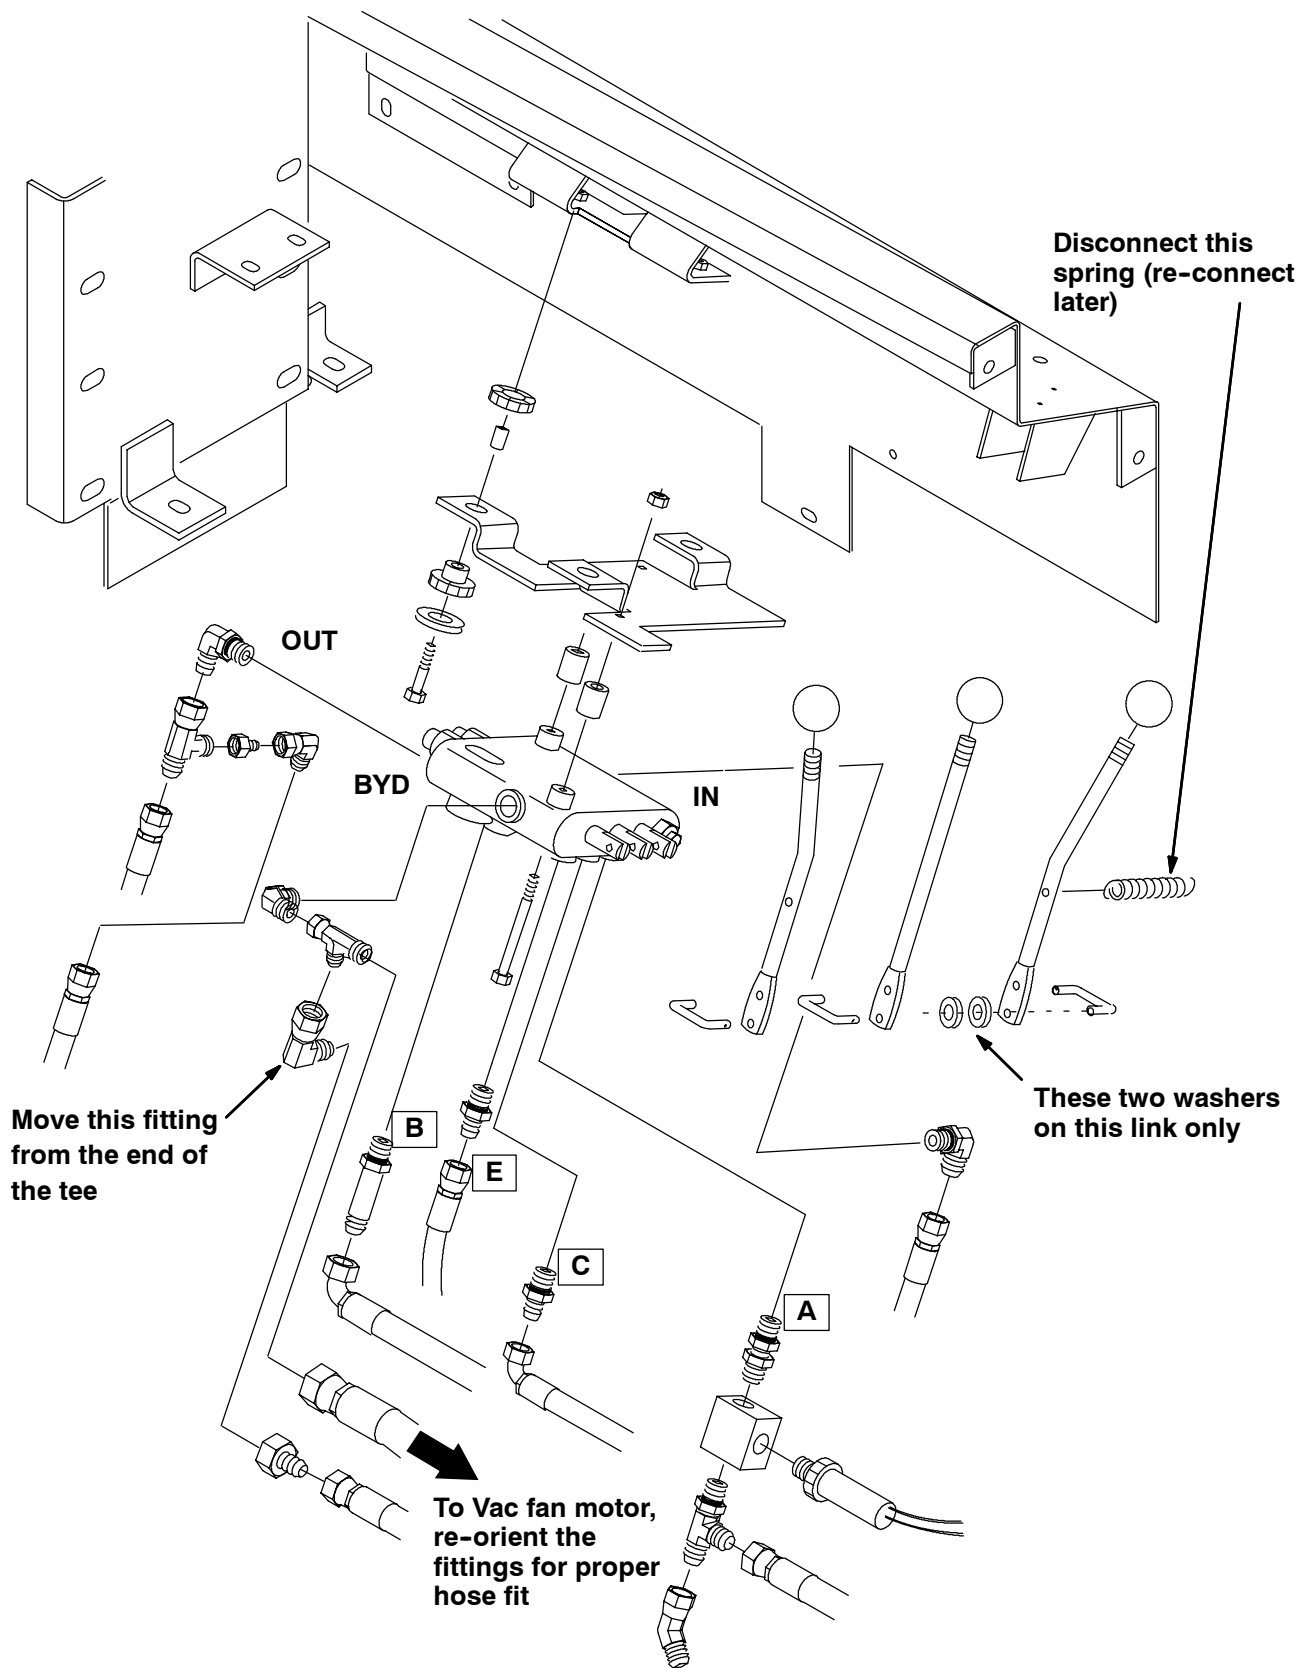

FIG. 3 - Reference 385 LH Valve Installation
1. The 385 LH valve installation is basically the same as a standard 385 except for moving the 90° fitting on the vacuum fan hose. Use Fig. 3 for a reference guide while following the 385 control valve replacement instructions.